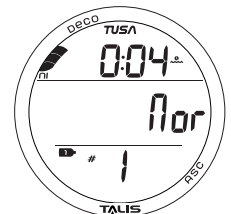

Fig. 25 - NORM SURF MAIN
**NORM SURF MAIN**, information provided includes (Fig. 25):